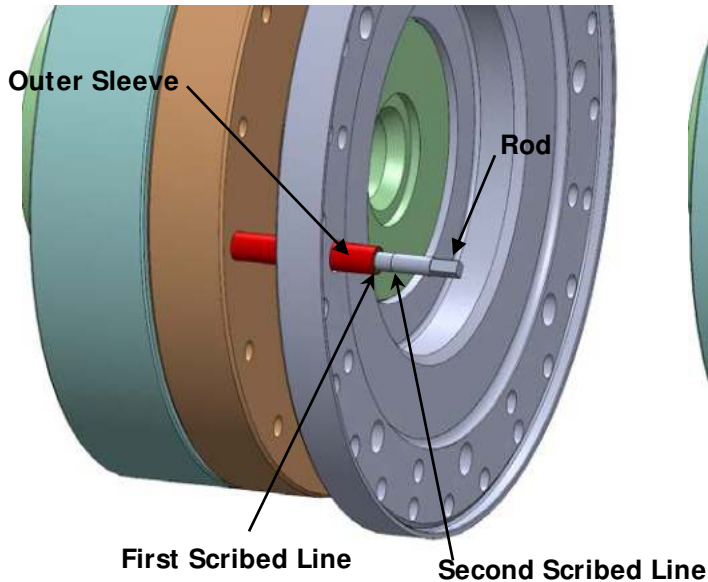

Figure 6a - Setting Initial Grip Position
3.4.11 The proper setting of the HTC is accomplished by the separation or gap between the two halves of the clamp (see Figure 1a). A special Gap Tool (Riverhawk PN 7501223) has been provided to facilitate this setting. Be sure you maintain the First Grip Position from the previous step until the tool is in place. Thread the gap tool into one of the retraction screw holes until the outer sleeve aligns with the first scribe line on the rod (see Figure 6a). The tool is spring loaded so you will need to push and turn in order to start the thread.